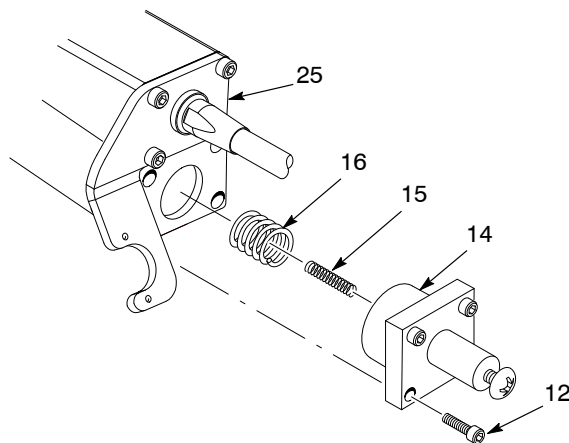

Figure 7-3 Fluid and Piston Return Springs Replacement
5. See Figure 7-3. Remove the four socket screws (12) with a  $\frac{5}{32}$ -in. hex wrench to remove the fluid adjuster housing (14).
7. Generously lubricate the piston return compression spring (16), the fluid return spring (15), and the fluid adapter housing bores where the springs will rest inside the fluid adjuster with MagnaLube G or an equivalent PTFE-based lubricant.
10. Secure the fluid adjuster housing onto the piston block body (25) by holding it firmly and securing with the four socket screws. Tighten the socket screws to 2.27–2.83 N•m (20–25 in.-lb).